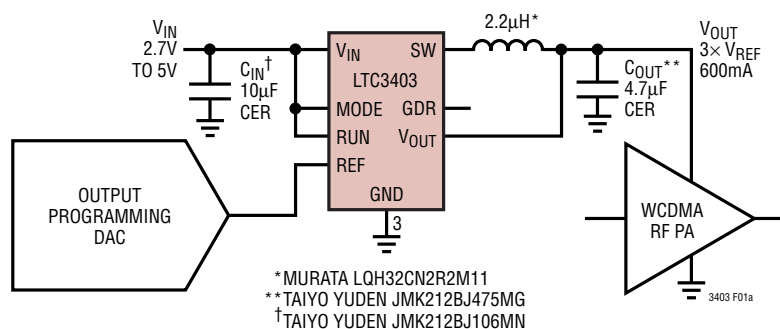

Figure 1a. WCDMA Transmitter Power Supply
# TYPICAL PERFORMANCE CHARACTERISTICS (From Figure 1a)
**TYPICAL PERFORMANCE CHARACTERISTICS** (From Figure 1a)